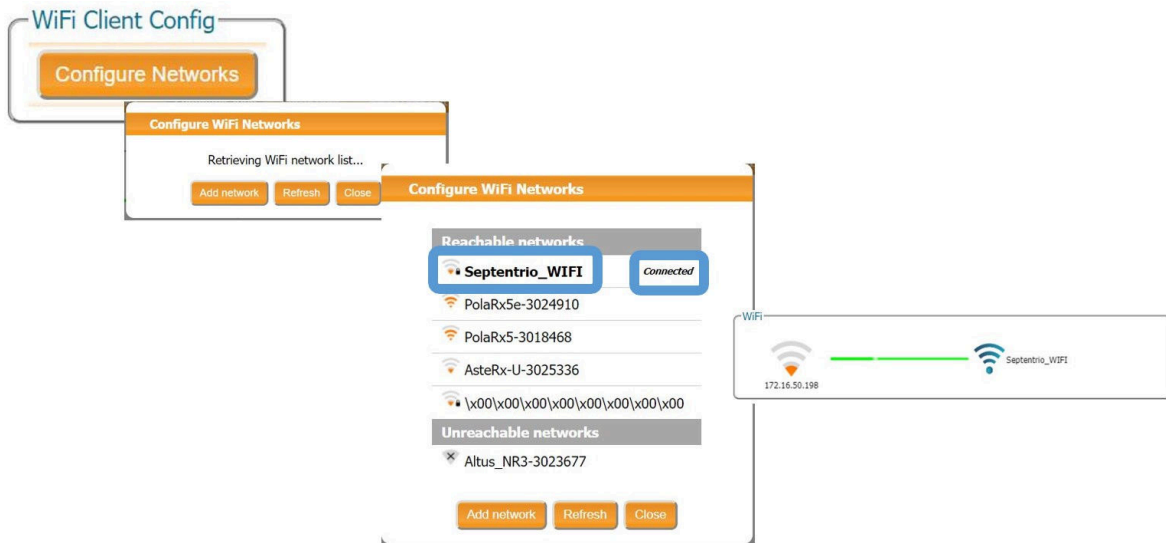

Figure 3-15: Connect to Septentrio WiFi network
- Click on **Configure Networks** in the WiFi Client Config panel. This will display a list of reachable WiFi networks. From the list of networks, select to connect to the internet network or mobile device hotspot network by clicking **Add**. Confirm by **OK** as shown in Figure 3-15.